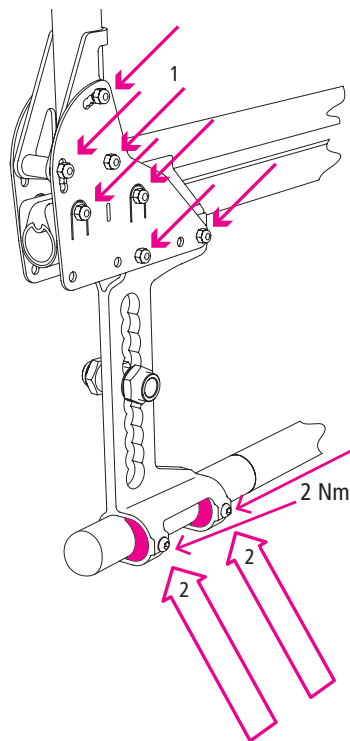

Fig. 50
1. To change the camber, loosen the screws (1,2, Fig. 50) to the connecting plate for the back tube.
3. When the 4 plates are in the correct position, reinsert and tighten all screws (1, Fig. 50). Now also tighten the locking screw securely again (2, Fig. 50).